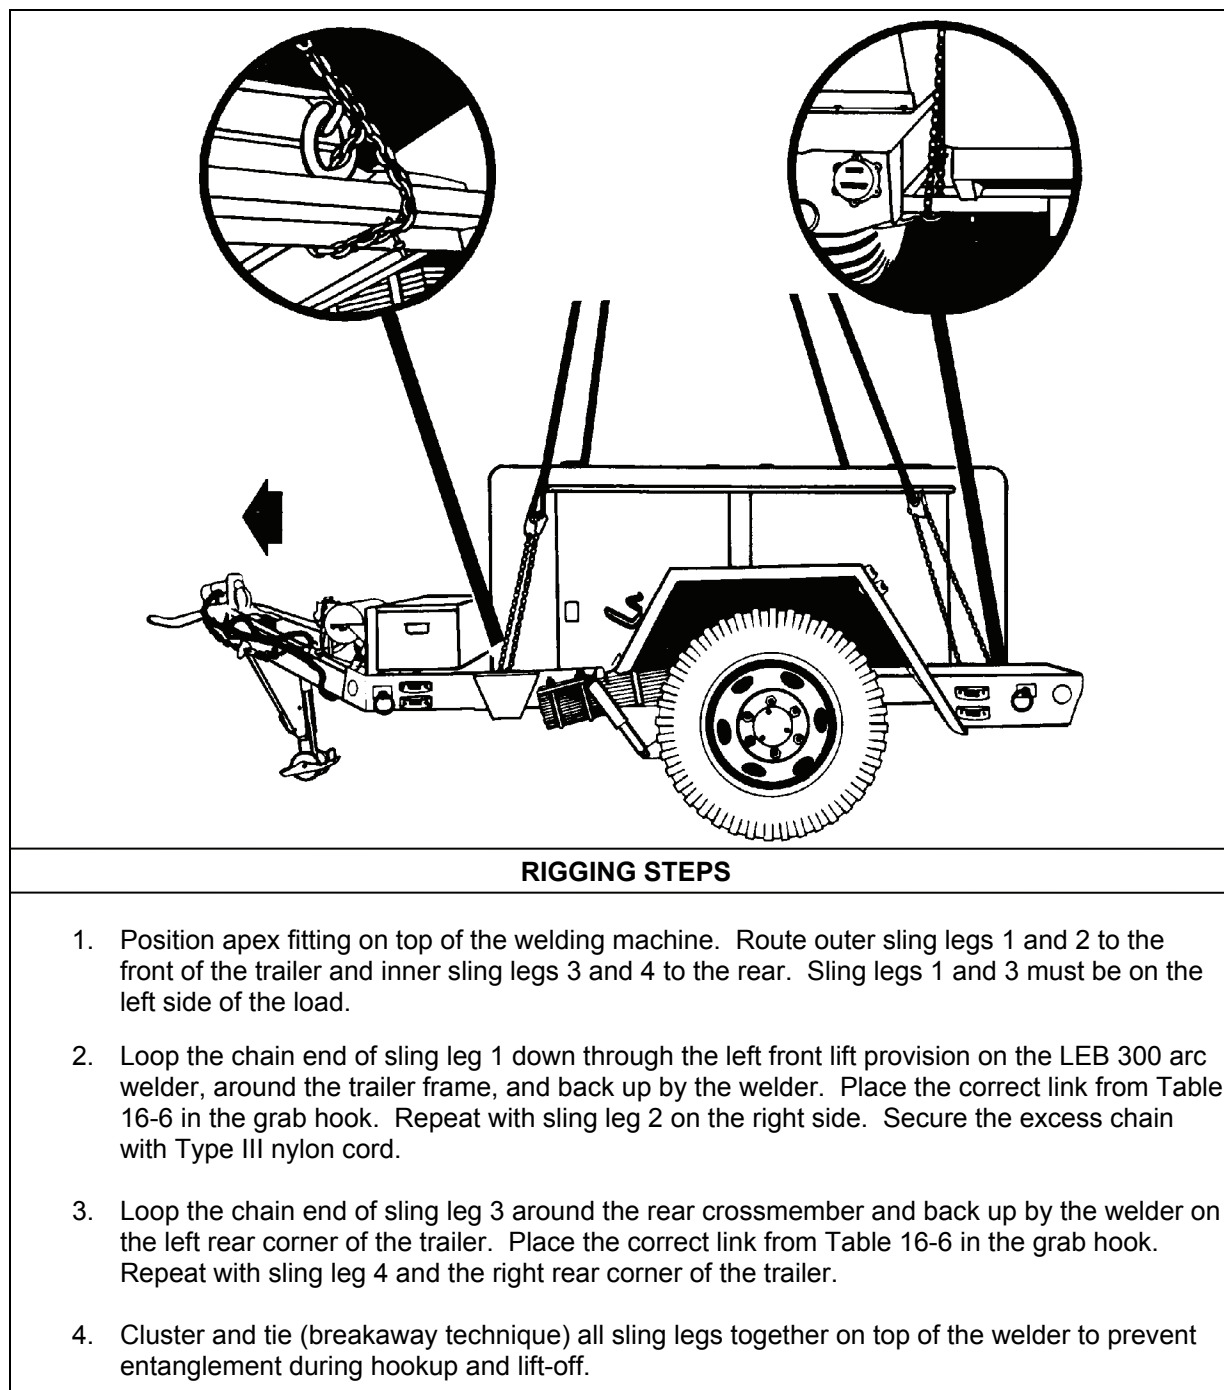

Figure 16-6. LEB 300 Welding Machine on 2 1/2-ton Trailer Chassis
- **Rigging.** Rig the load according to the steps in Figure 16-6.